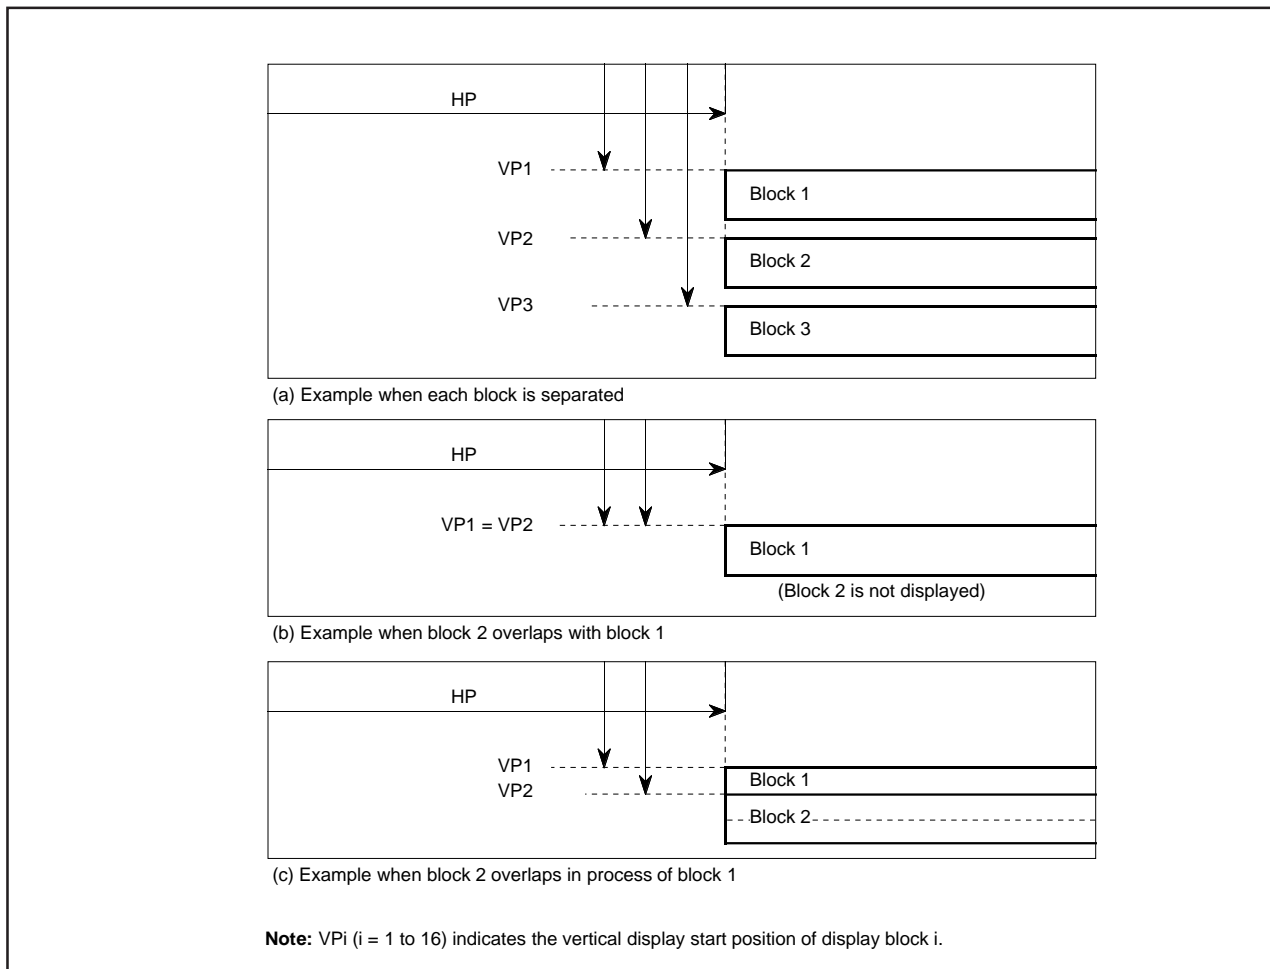

Figure 2.16.8 Display position
- When the display position is overlapped with another block in the same layer (Figure 2.16.8 (b)), a low block number (1 to 16) is displayed on the front.
- When another block display position appears while one block is displayed in the same layer (Figure 2.16.8 (c)), the block with a larger set value as the vertical display start position is displayed. However, do not display block with the dot size of 2Tc X 2H or 3Tc X 3H during display period (*) of another block.